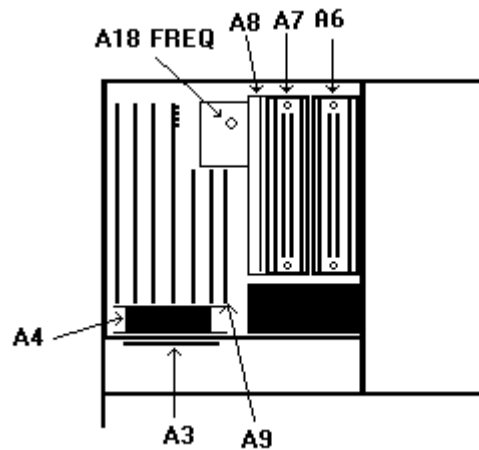

Figure 1. Test instrument - top view.
(1) Connect a time/frequency workstation 1 MHz output to frequency difference meter **REF INPUT**.
(2) Connect TI **FREQ STD OUTPUT 10 MHz** (rear panel) to frequency difference meter **SIG INPUT**.
(3) Adjust **A18 FREQ ADJ** (fig. 1) for minimum difference indication on frequency difference meter.